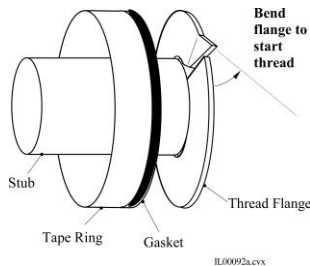

Figure 6. Spin-in Takeoff (for 1" Fiberglass Duct)
3. Bend the starting edge of the spin-in (UPC-23B) takeoff thread flange as shown in Fig. 6.